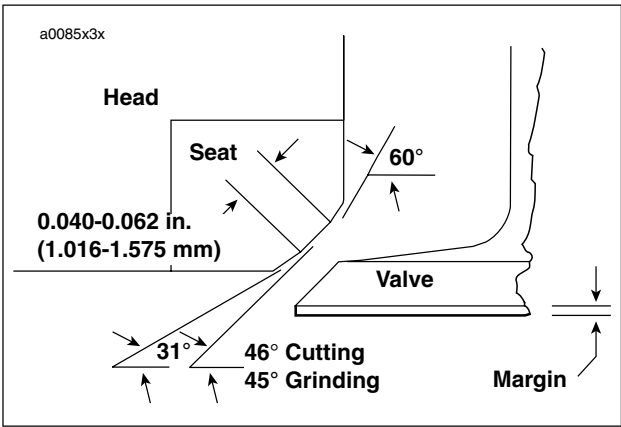

Figure 3-57. Valve Seat Angles
See Figure 3-57. Valve face angle is 45° for both intake and exhaust valves. If a valve re-facing grinder is used, it must be adjusted exactly to this angle.
3. See Figure 3-57. Check the contact pattern on valve face. It should be 0.040-0.062 in. (1.016-1.575 mm) wide, and its center should be positioned 2/3 of the way toward the outside edge of face.